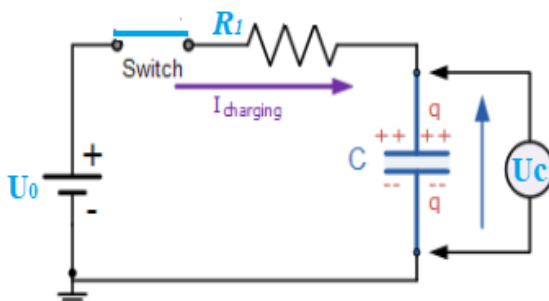

Figure .3 : RC Charging Circuit.
When the switch is in position 1 as shown in Figure.3, charge on the conductors builds to a maximum value after some time.
Wire up the circuit (a resistor and a capacitor are connected in series with a battery and a switch) shown in Figure 3, but have your lab instructor check your circuit before closing the switch. For the switch you will use one side of a double-throw switch. The resistance  $R_1$  is at .....k $\Omega$ . Use the capacitor with the larger capacitance labeled on.....
A capacitor  $C$  is charged through a resistance  $R_1$  by putting switch  $S$  in position (A) of circuit shown in figure 3. Start the stopwatch and turn the switch on simultaneously. For every 5 seconds, you should read the voltage as accurately as possible for the first minute then every 10 seconds for the second minute and finally every 20 seconds for the third minutes – it will increase quite quickly at first.